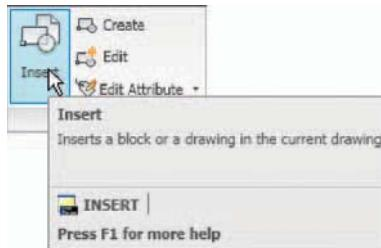
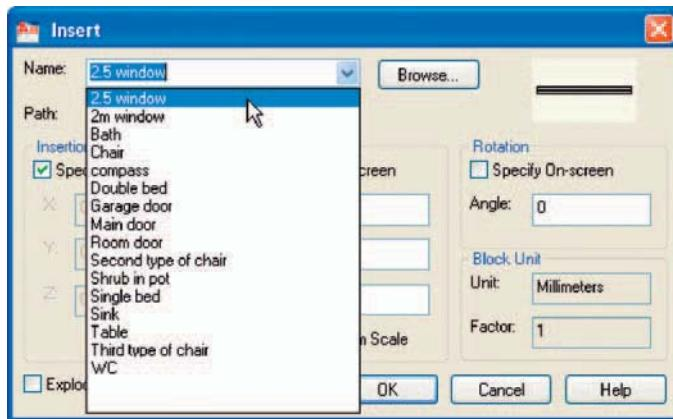

Fig. 9.6 The **Insert** tool icon in the **Home/Block** panel
Fig. 9.7 The **Insert** dialog with its **Name** pop-up list displaying the names of all blocks in the drawing
1. Left-click the **Insert** tool icon in the **Home/Block** panel (Fig. 9.6) or the **Insert Block** tool in the **Draw** toolbar. The **Insert** dialog appears on screen (Fig. 9.7). From the **Name** pop-up list select the name of the block which is to be inserted, in this example the **2.5 window**.